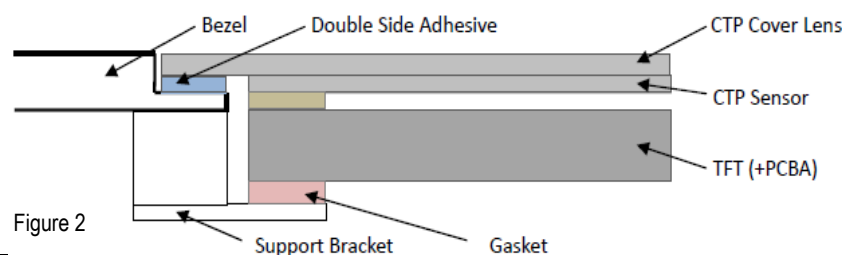

Figure 2
7.2 Surface Mounting (Figure 2)
7.2 嵌入安装 (附图2)